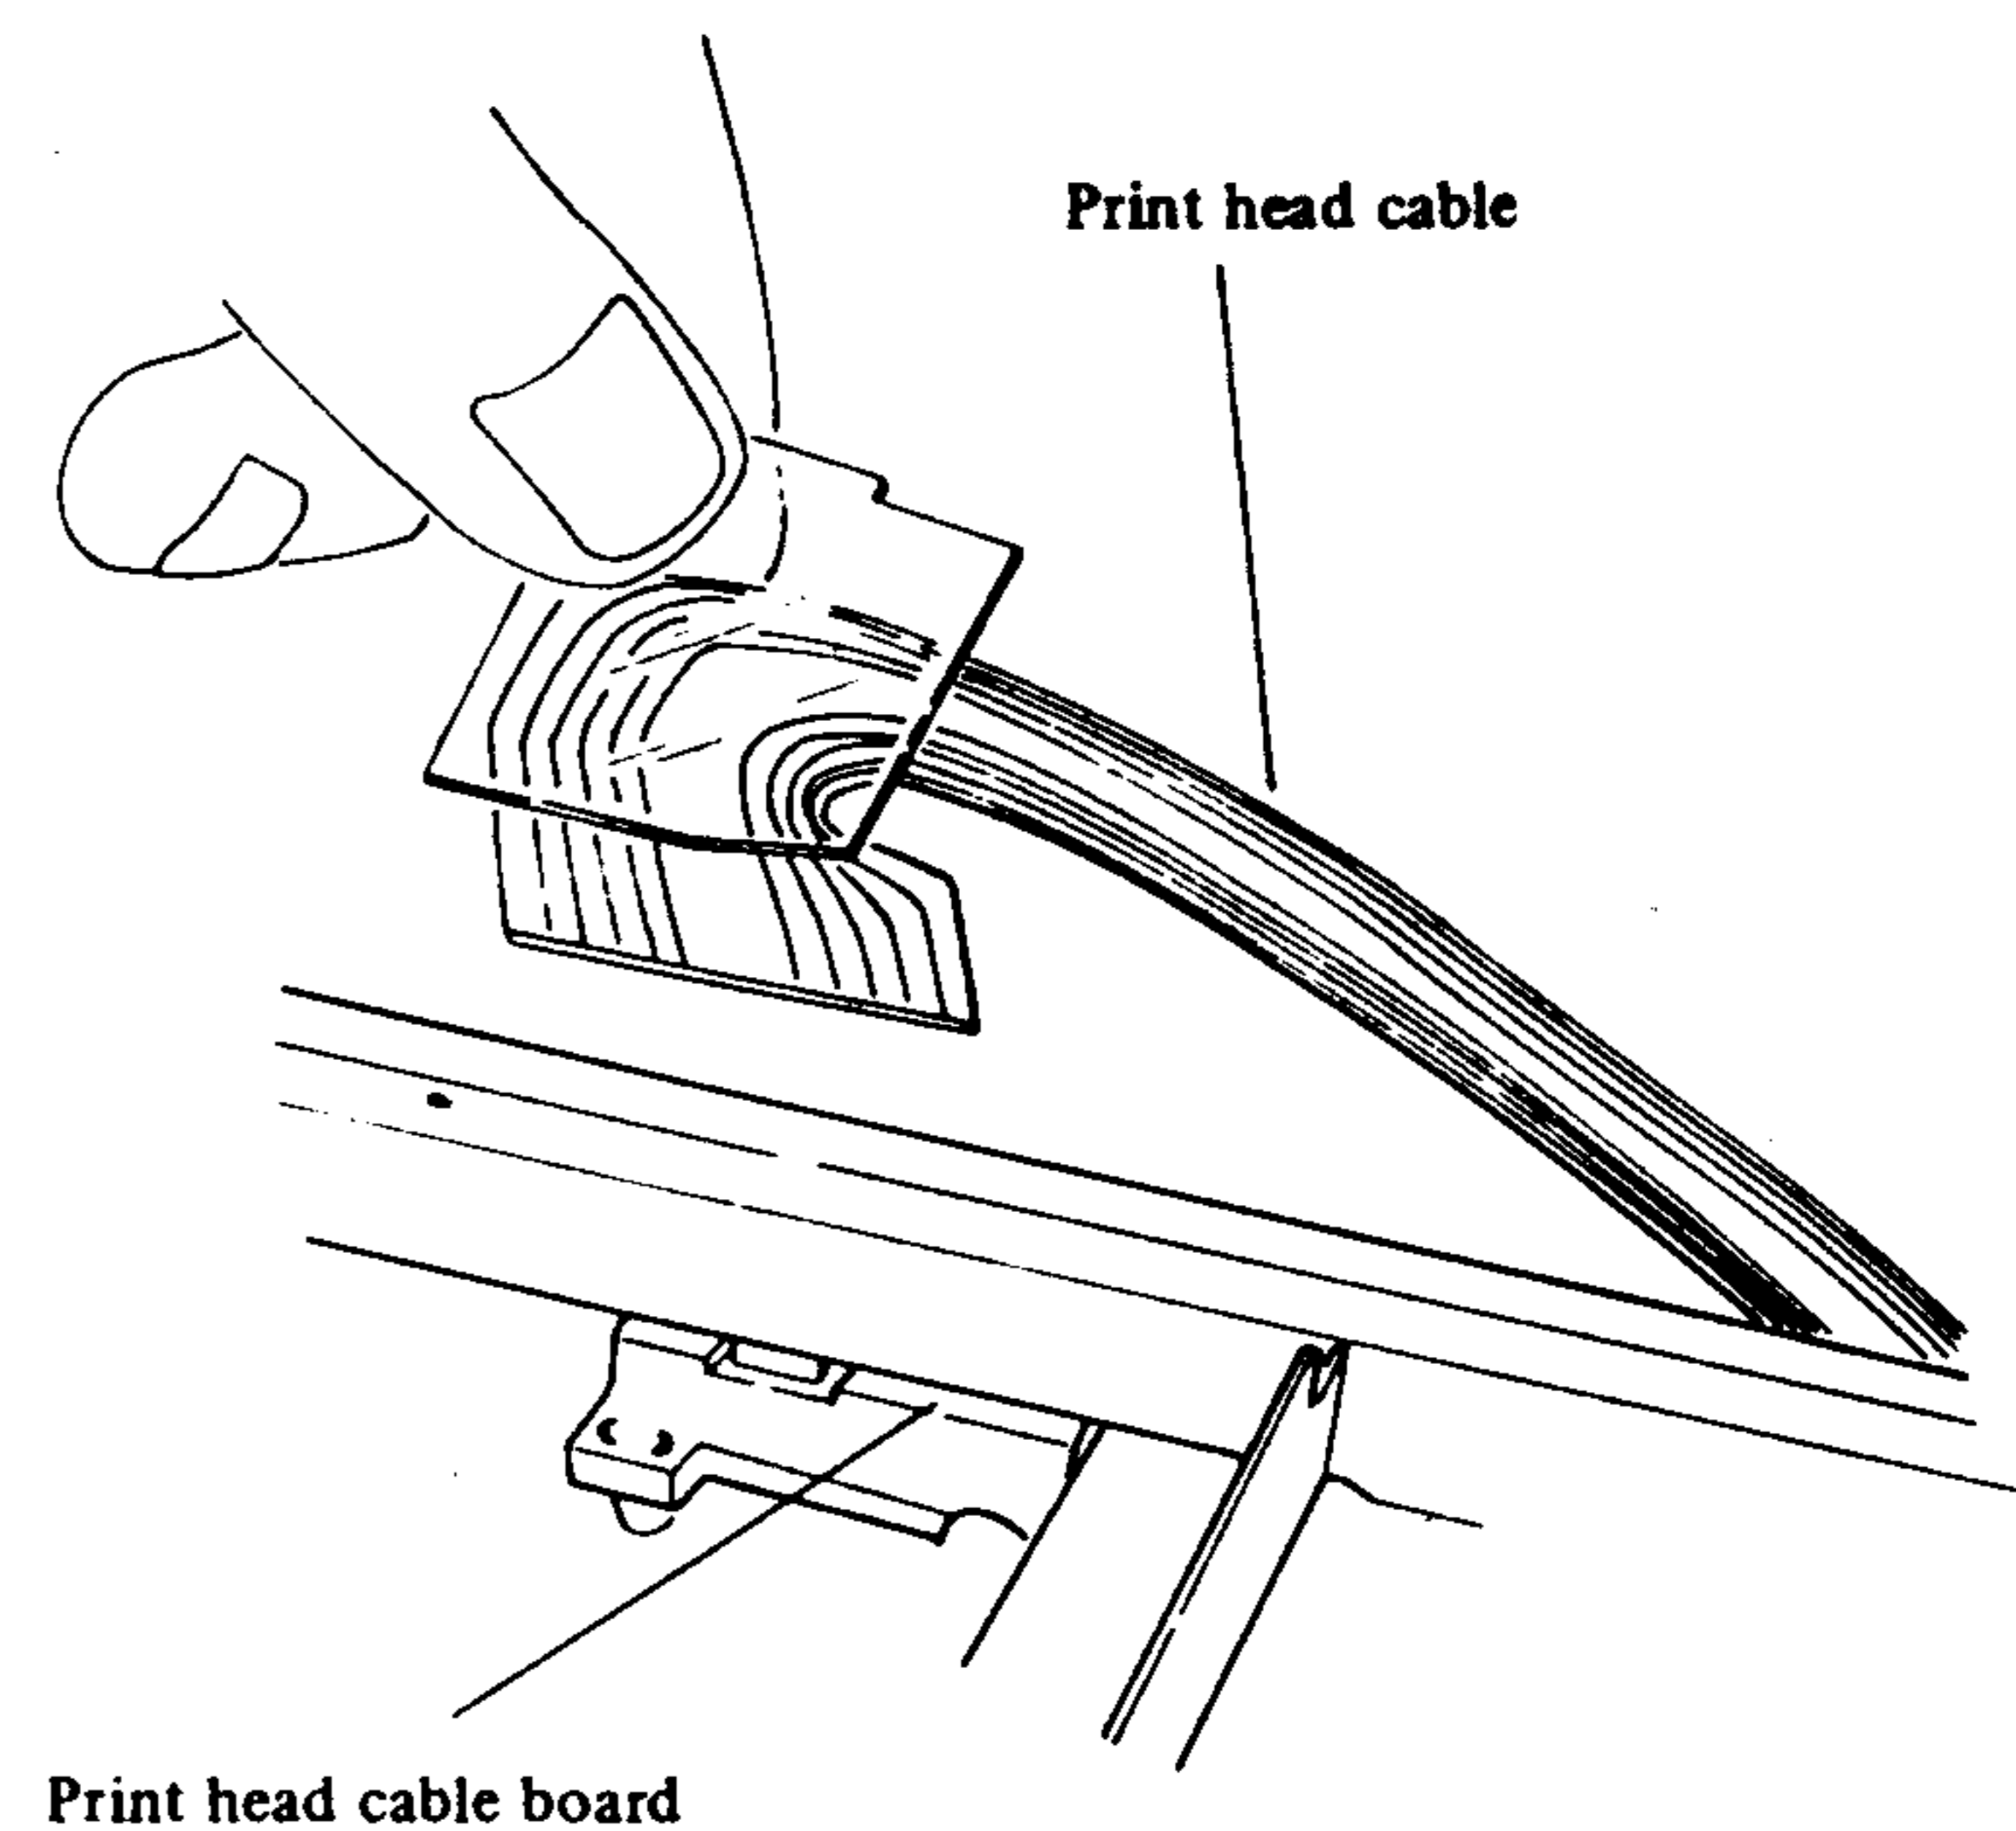

Figure A-3. Reconnecting the print head cable.
6. Bring the cable around in front of the pulley and insert it into the connector as shown in Figure A-3.